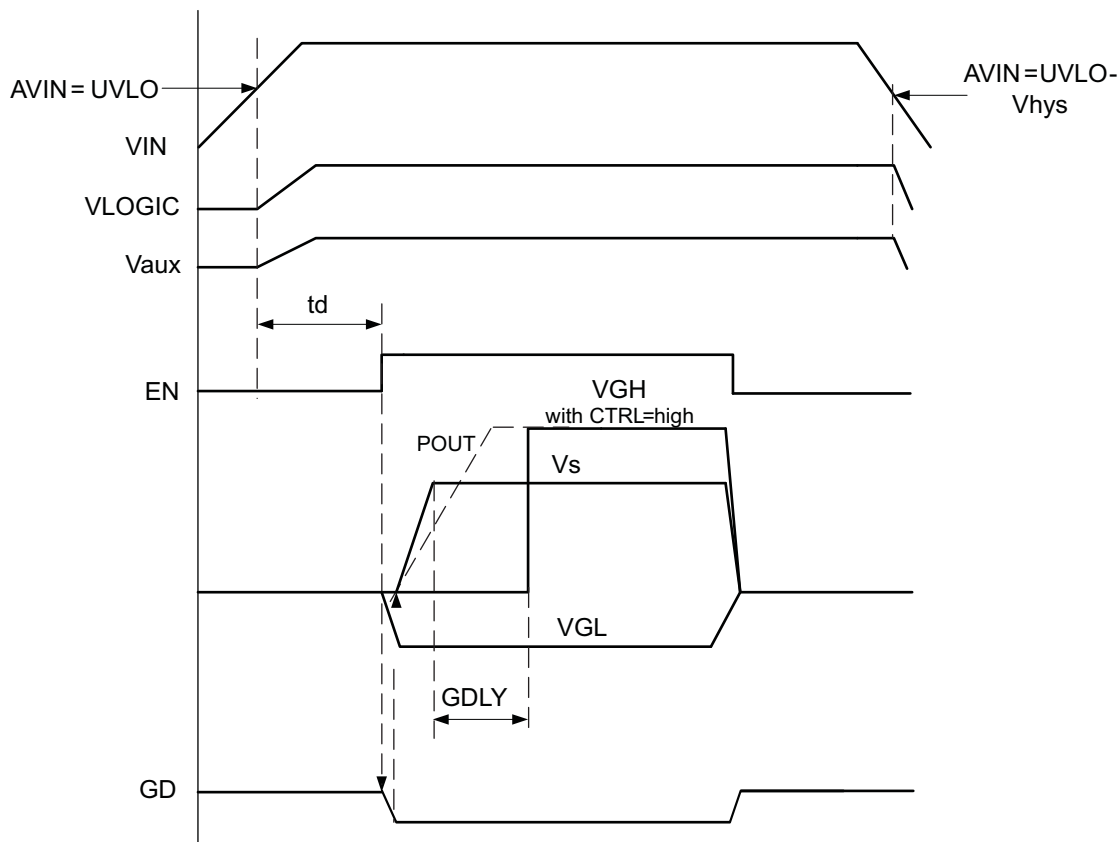

Figure 23. Power Up Sequencing
The device has an adjustable start-up sequencing to provide correct sequencing as required by LCD. When the input voltage exceeds the undervoltage lockout threshold, then the step-down converter and LDO controller start-up at the same time. As the enable signal (EN) goes high, the negative charge pump starts up followed by the boost converter  $V_s$  starting at the same time as the positive charge pump. See the typical curves shown in Figure 18, Figure 19, and Figure 23.
If no logic control signal is available, it is also possible to connect a capacitor to this pin to set the delay time  $t_d$  as shown in Figure 23 and Figure 19.